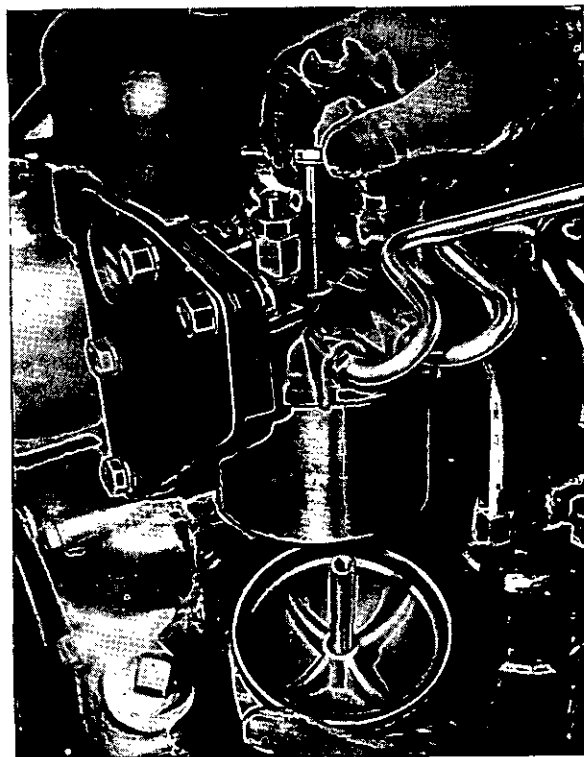

Fig. M.6. Dismantling Fuel Filter.
1. Remove filter element as in figs. M.6 and M.7.